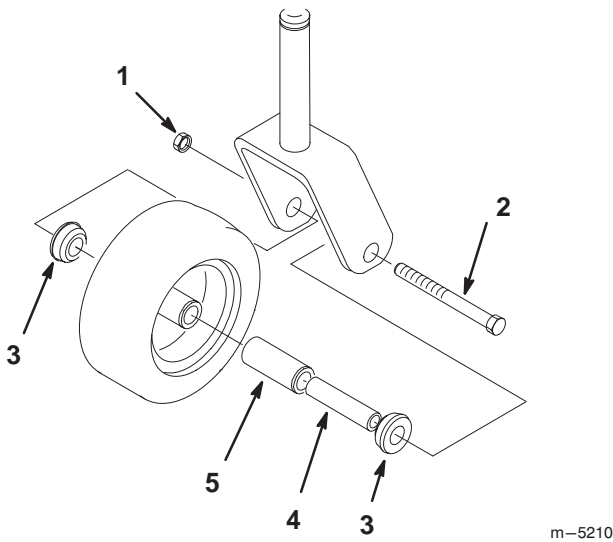

Figure 66
1. Remove the locknut and wheel bolt holding the caster wheel to the caster fork (Fig. 66).
2. Remove one bushing, then pull the spanner bushing and roller bearing out of the wheel hub (Fig. 66).
3. Remove the other bushing from the wheel hub and clean any grease and dirt from the wheel hub (Fig. 66).
4. Inspect the roller bearing, bushings, spanner bushing and inside of the wheel hub for wear. Replace any defective or worn parts (Fig. 66).
- To assemble, place one (1) bushing into the wheel hub. Grease the roller bearing and spanner bushing and slide them into the wheel hub. Place the second bushing into the wheel hub (Fig. 66).
- Install the caster wheel into the caster fork and secure with the wheel bolt and locknut. Tighten the locknut until the spanner bushing bottoms against the inside of the caster forks (Fig. 66).